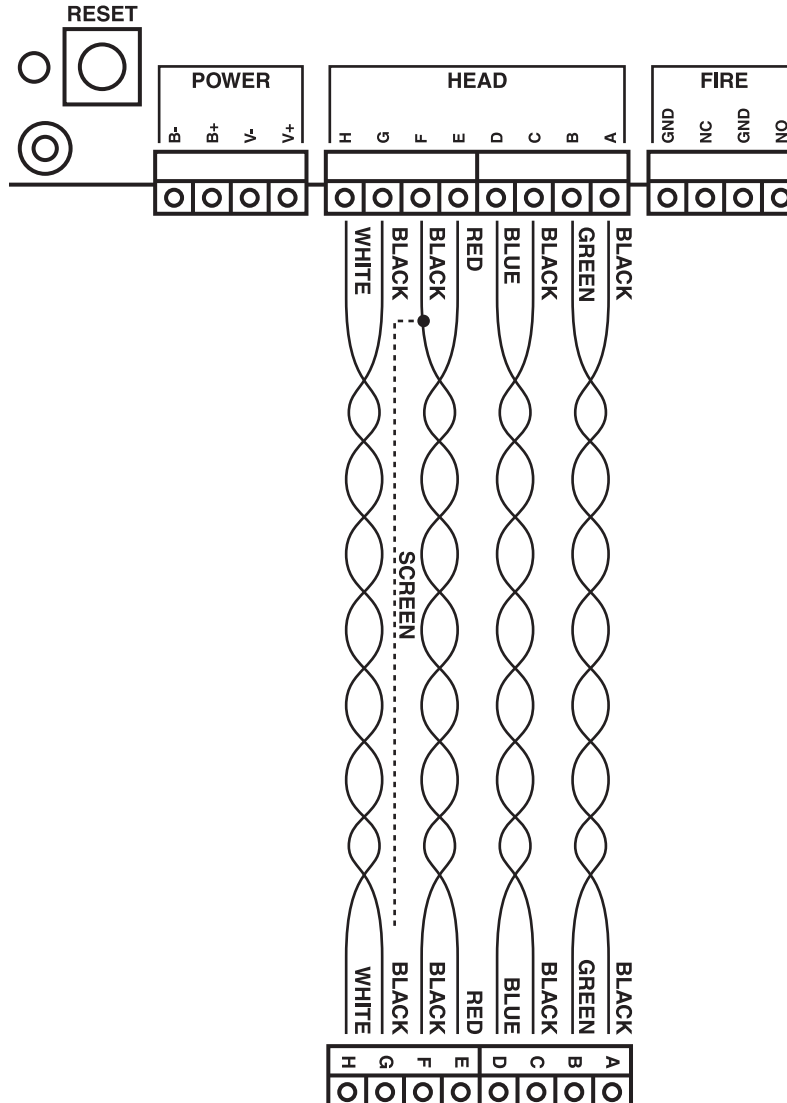

Figure 3-1. Connecting the control unit to the head unit.
3. The cable should be wired as shown in Figure 3-1. The actual colors are not important, but make sure you connect each pair of wires as shown in the diagram.
4. Wire the head unit as shown in Figure 3-1.